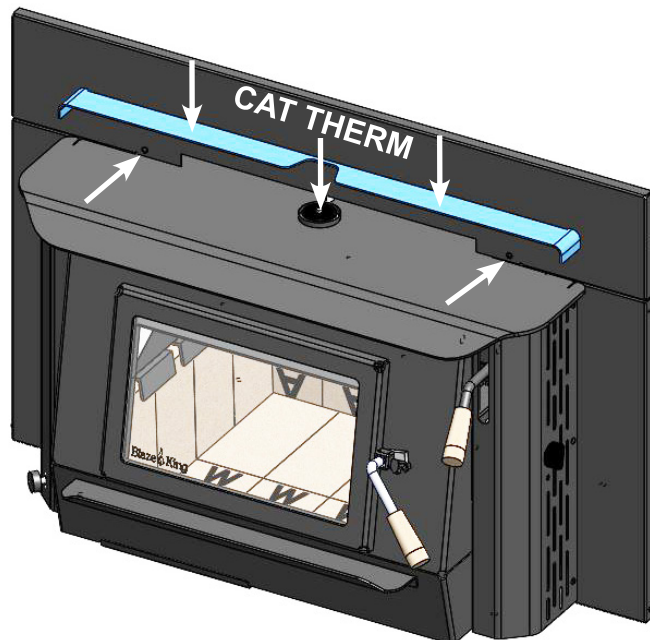

Fig. 3
9. Fasten the convection deck to the shroud top. (2 screws) (**Fig. 3**)